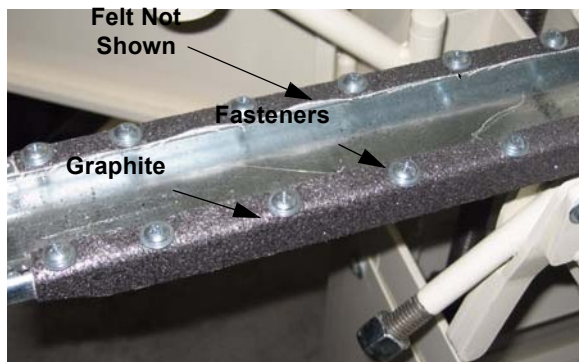

Figure 63: Graphite Platen Cover
1. The platen sleeve. See Fig. 63.
2. The platen graphite. See Fig. 63.
3. The platen felt. See Fig. 63.
1. Remove the small fasteners that hold the platen graphite in place. See Fig. 63.
2. Remove the graphite. See Fig. 63.
3. Remove the felt and replace with a new felt. See Fig. 63.
4. Reinstall or replace the graphite. See Fig. 63.
5. Reassemble and reinstall the platen into the wide belt sander. See Fig. 63.